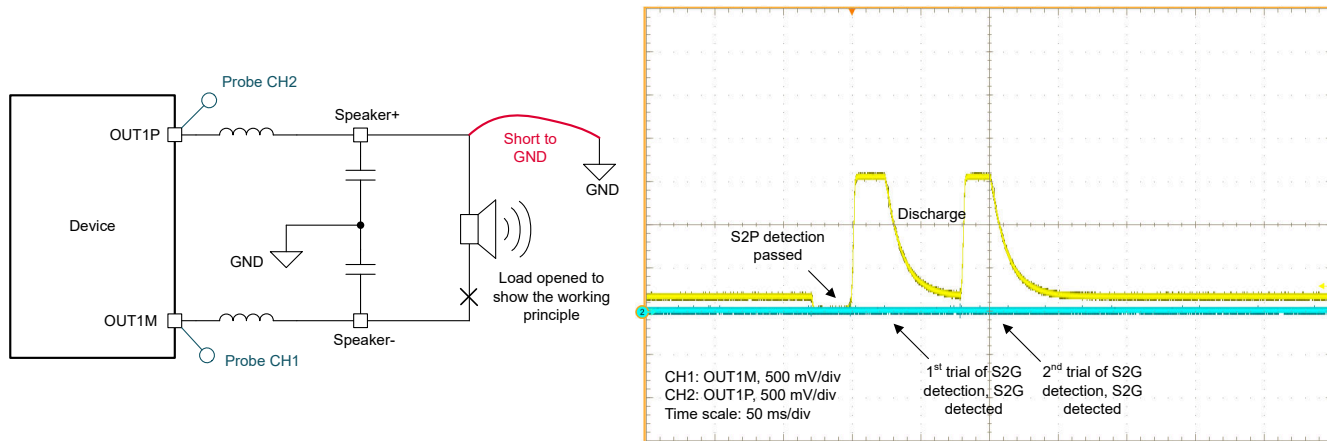

Figure 2-9. DC Load Diagnostic Waveform With an S2G Fault
Figure 2-9 shows the waveforms of short-to-ground (S2G) fault load condition in the case where the DC load diagnostic is run on a single channel. In this test, the speaker terminal connected to OUT1P is shorted to GND. To show the working principle more clearly, there is no load (OL) connected between the output speaker terminals. The waveform shows that when the internal circuit sources 1-mA current onto the OUT1P pin during the S2G detection, the voltage on OUT1P stayed at about 0 V due to the short to GND condition, which is below the S2G threshold. Thus a S2G fault is reported. An automatic retry is executed after the S2G fault is detected in the first trial. Figure 2-9 also shows that the DC detection did not proceed to OL or SL tests with the S2G fault present. Again, the OL will not be reported in the DC load diagnostics fault registers: 0xC0 and 0xC1.